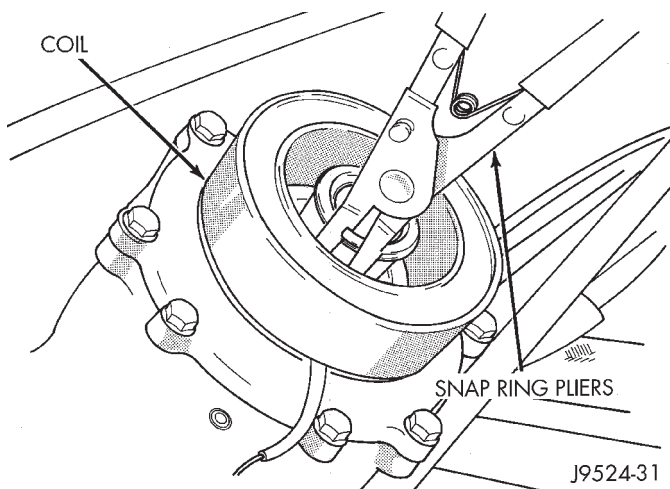

Fig. 10 Snap Ring and Field Coil Removal
(10) Remove snap ring from compressor hub and remove field coil (Fig. 10).